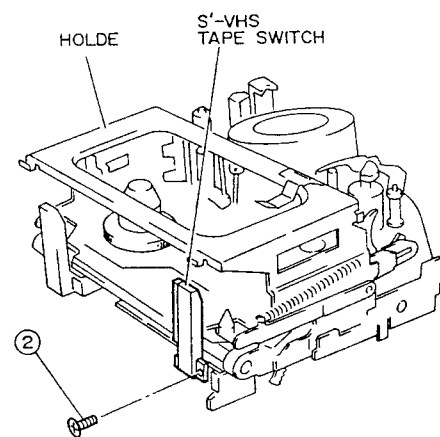

Fig. 2-51-1
2. Remove one (1) screw holding the S-VHS tape switch. (See Fig. 2-51-1)